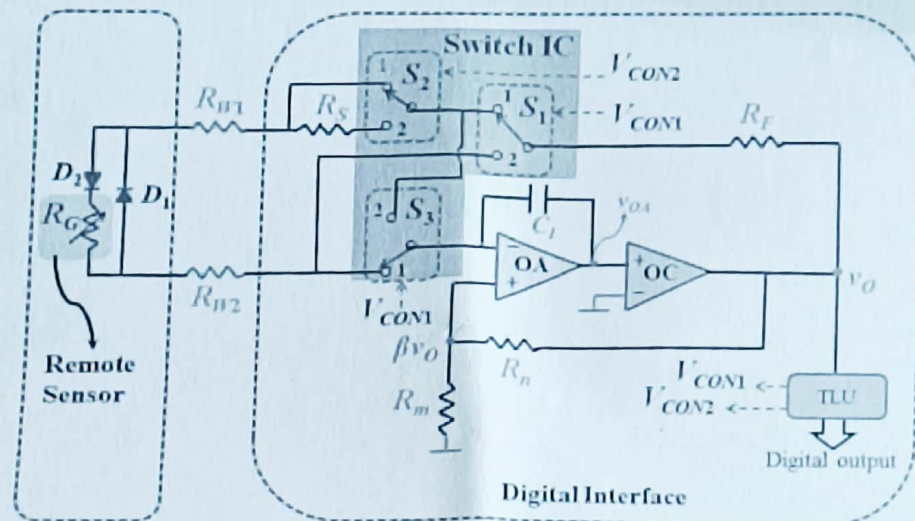

Fig. 1
(b) Consider the relaxation-oscillator circuit given in Fig. 1. It is used to interface a remotely located resistive sensor (say,  $R_G$ ). It is known that  $R_G$  can vary from  $500\ \Omega$  to  $600\ \Omega$ . Assume ON resistances of the switches as  $100\ \Omega$  and the wire resistance of each wire is  $50\ \Omega$  (i. e.,  $R_{W1} = R_{W2} = 50\ \Omega$ ). The circuit uses  $1\ \text{k}\Omega$  resistors to implement other resistors of this circuit. Output saturation levels of OC is given as  $+10\ \text{V}$  and  $-10\ \text{V}$ .
Derive the expression for output voltage ( $V_o$ ), in terms of the inputs  $V_1$  and  $V_2$ , of the circuit given in Fig. 1. Assume that the frequency (say,  $f_c$ ) of the clock signal ( $V_c$ ) is sufficiently high when compared to the frequency of  $V_1$  and  $V_2$ . Switches will be at position A when  $V_c$  is high and at position B, otherwise.
- (a) Fluid velocity ( $v$ ) in a pipe was measured using an ultrasonic flowmeter set-up as shown in Fig. 1. Following procedure was followed during the experimentation.
- (1) Piezoelectric crystals, A and B were configured, respectively, as transmitter and receiver & transit time was noted.
- (2) The roles of crystal A and B were interchanged and transit time was again noted.